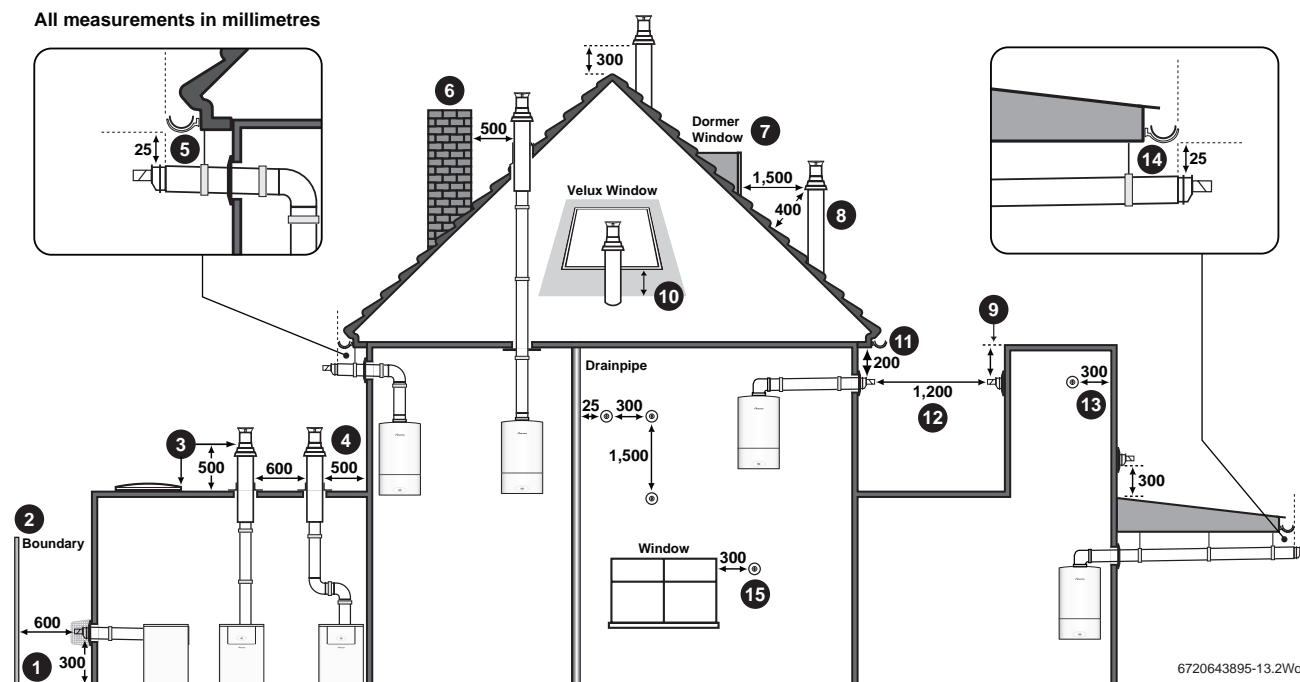

Fig. 22 Flue terminal positions
- ▶ Refer to figure 22 for all concentric flue terminal positions unless the flue position is specified on the figure above "Plume terminal positions".